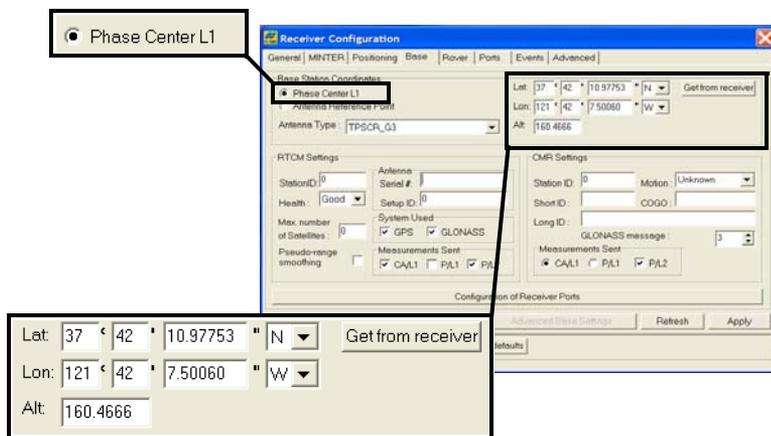

Figure 3-5. Base Configuration
- Click the **Base** tab, set the following parameters (Figure 3-5 on page 3-6), and then click **Apply**.